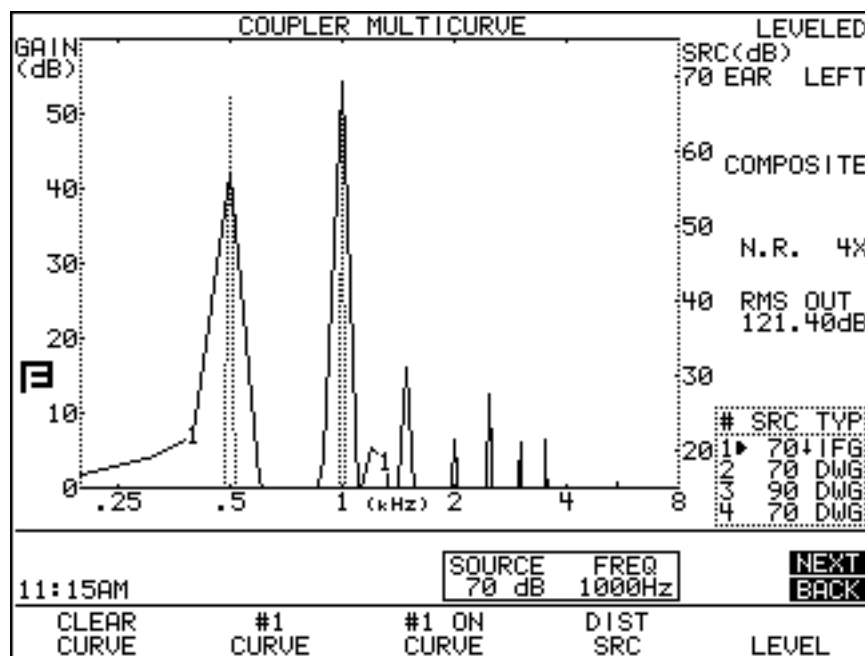

Figure 3.5.2—Measuring intermodulation distortion. The dotted lines indicate the tones generated in the input signal.
11. Press [START/STOP] again to start the static IM distortion measurement. See Figure 3.5.2.